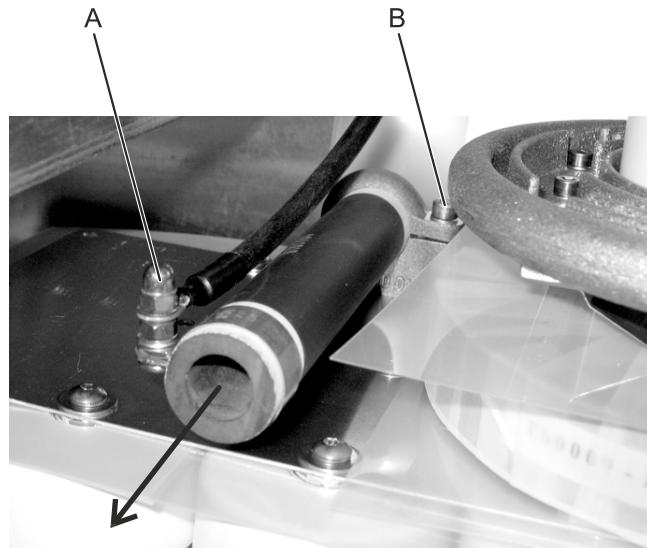

Figure 61: Removing the HV circuit resistor
4. Use the 7 mm socket wrench to disconnect the HV power supply cable (see Figure 61, A).
5. Use the 3 mm allen key to loosen the securing clamp (B).
6. Pull the resistor out of the clamp as indicated in Figure 61. Between the clamp and resistor is a copper contact ring.